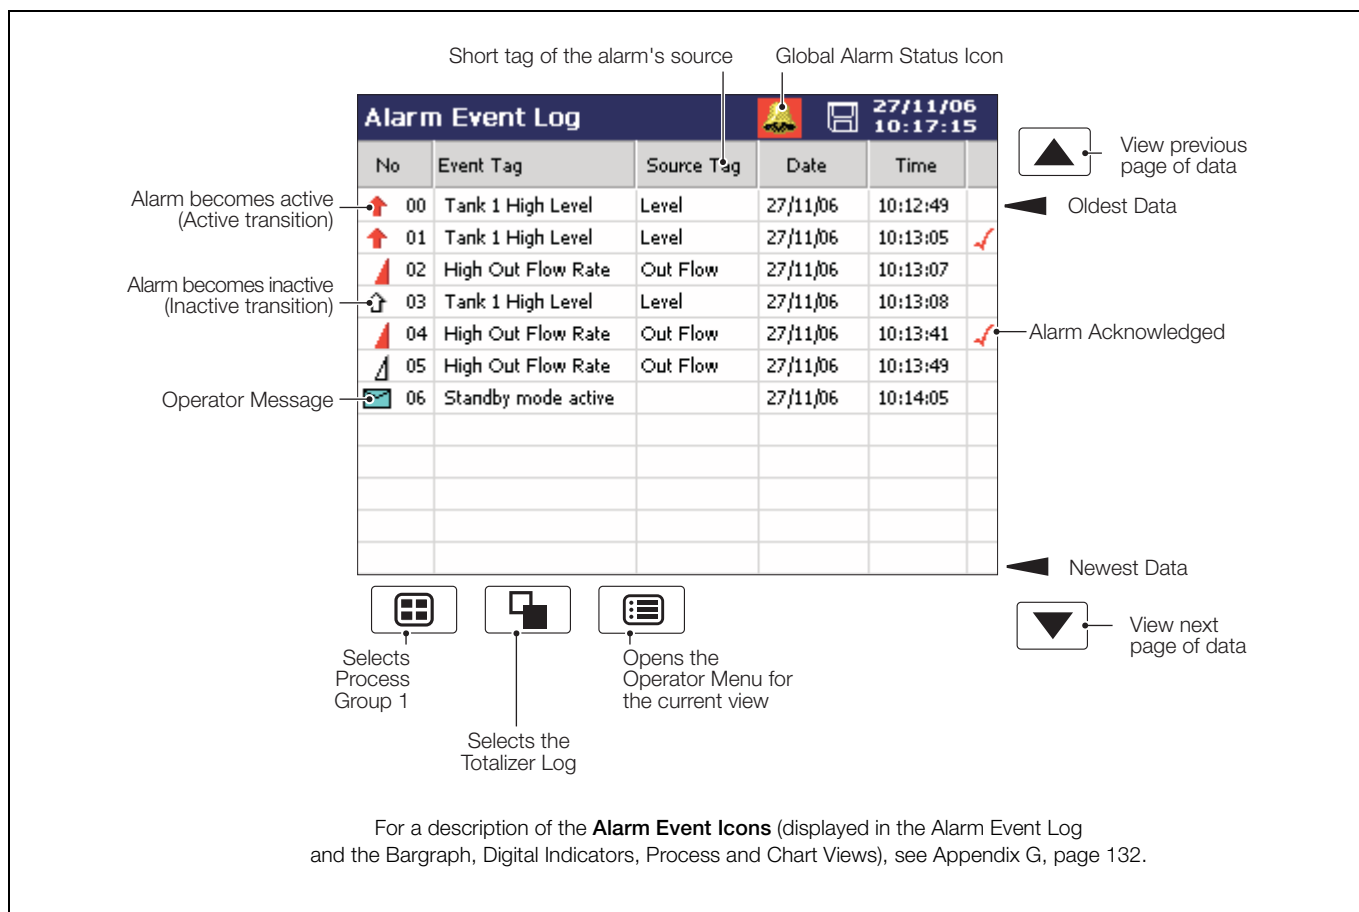

Fig. 2.8 Alarm Event Log
2.7 Alarm Event Log – Fig. 2.8